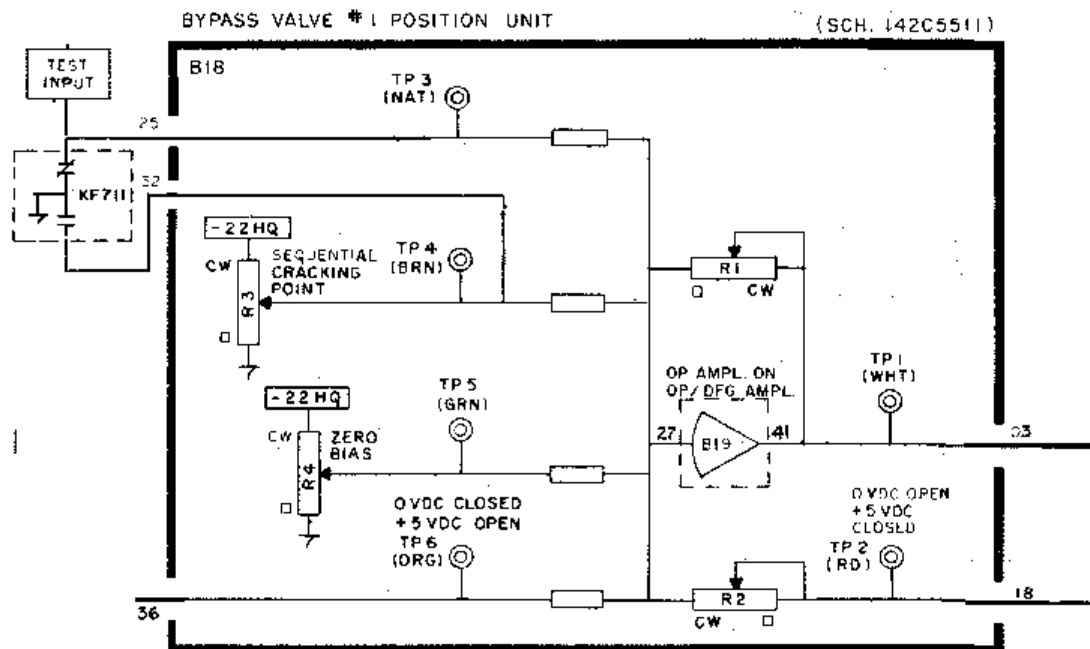

Figure 1
8.2 Brunswick Drawing (Figure 1)